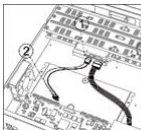

Figure 2-3 Connect
Step 3 Match HDD screw threads with the reserved holes on the device bottom, and fix HDD with screws. Refer to Figure 2-3.